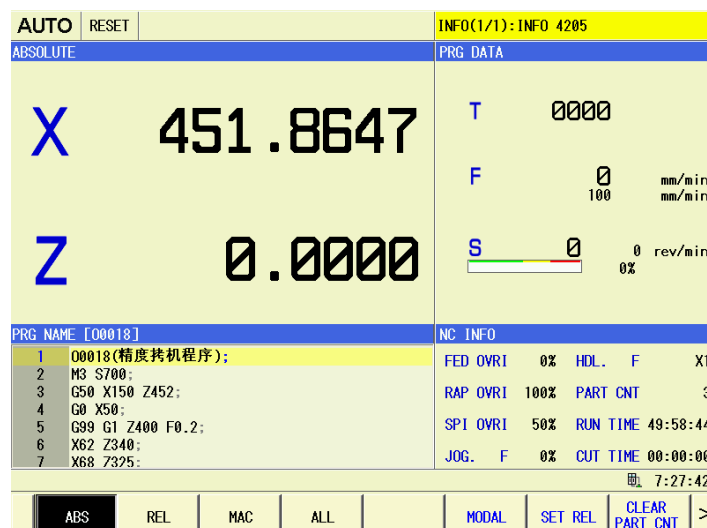

Fig. 6-2
(3) During resetting, press  software key, and the selected program is loaded into the block area in the position page set, and it can be executed currently, and the page is skipped into the position display page, which is shown as Fig. 6-2: